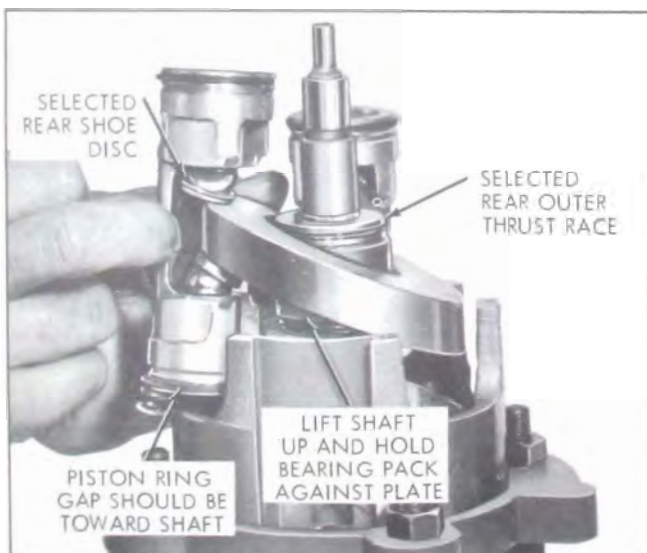

Figure 11-75—Installing Piston Assembly in Cylinder
3. With front and rear thrust bearing assemblies on shaft and shaft installed in front cylinder half, rotate swash plate so high point is above cylinder bore No. 1. Carefully assemble No. 1 piston (complete with ball and ZERO shoe on FRONT end and ball and numbered shoe on REAR end) over swash plate. See Figure 11-75. Position piston rings so that the gap is toward center of cylinder.